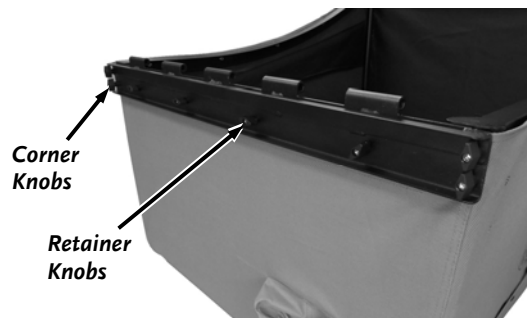

Figure 43
4. Loosely secure the 4 corner bolts with Knobs (**Figure 43**).